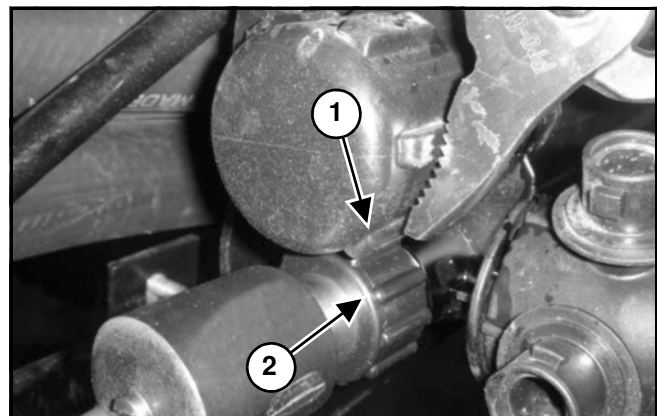

Figure 19
[Figure 19] - If the knurls of the boom tube threaded caps (1) interfere with the nozzle valve threaded cap (2), slightly rotate the threaded cap until the nozzle valve assembly cap is free to rotate and tighten.